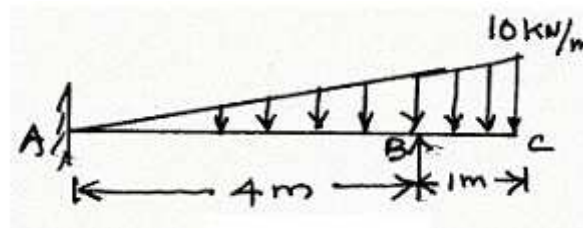

Figure 1:
1. Draw the bending moment diagram and locate the point of inflections for the propped cantilever beam shown in Figure 1. [16]